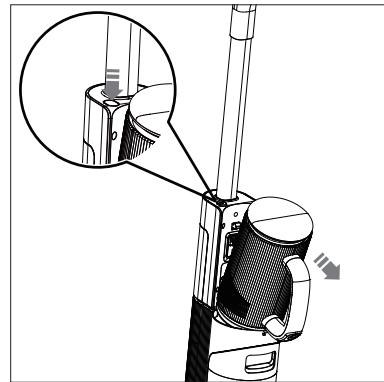

Fig. 21 – Removing the motor unit
- ▶ Hold the motor unit firmly and press the release button for the motor unit (4) to release the motor unit.
- ▶ Tilt the motor unit forwards out of the appliance (**see Fig. 21**).